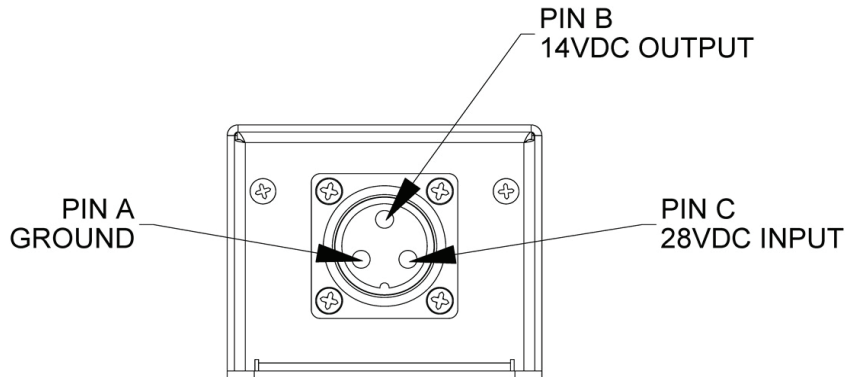

Figure 5 Pin Designation
- 2.14. Refer to Figure 5 for Power Converter pin designation.